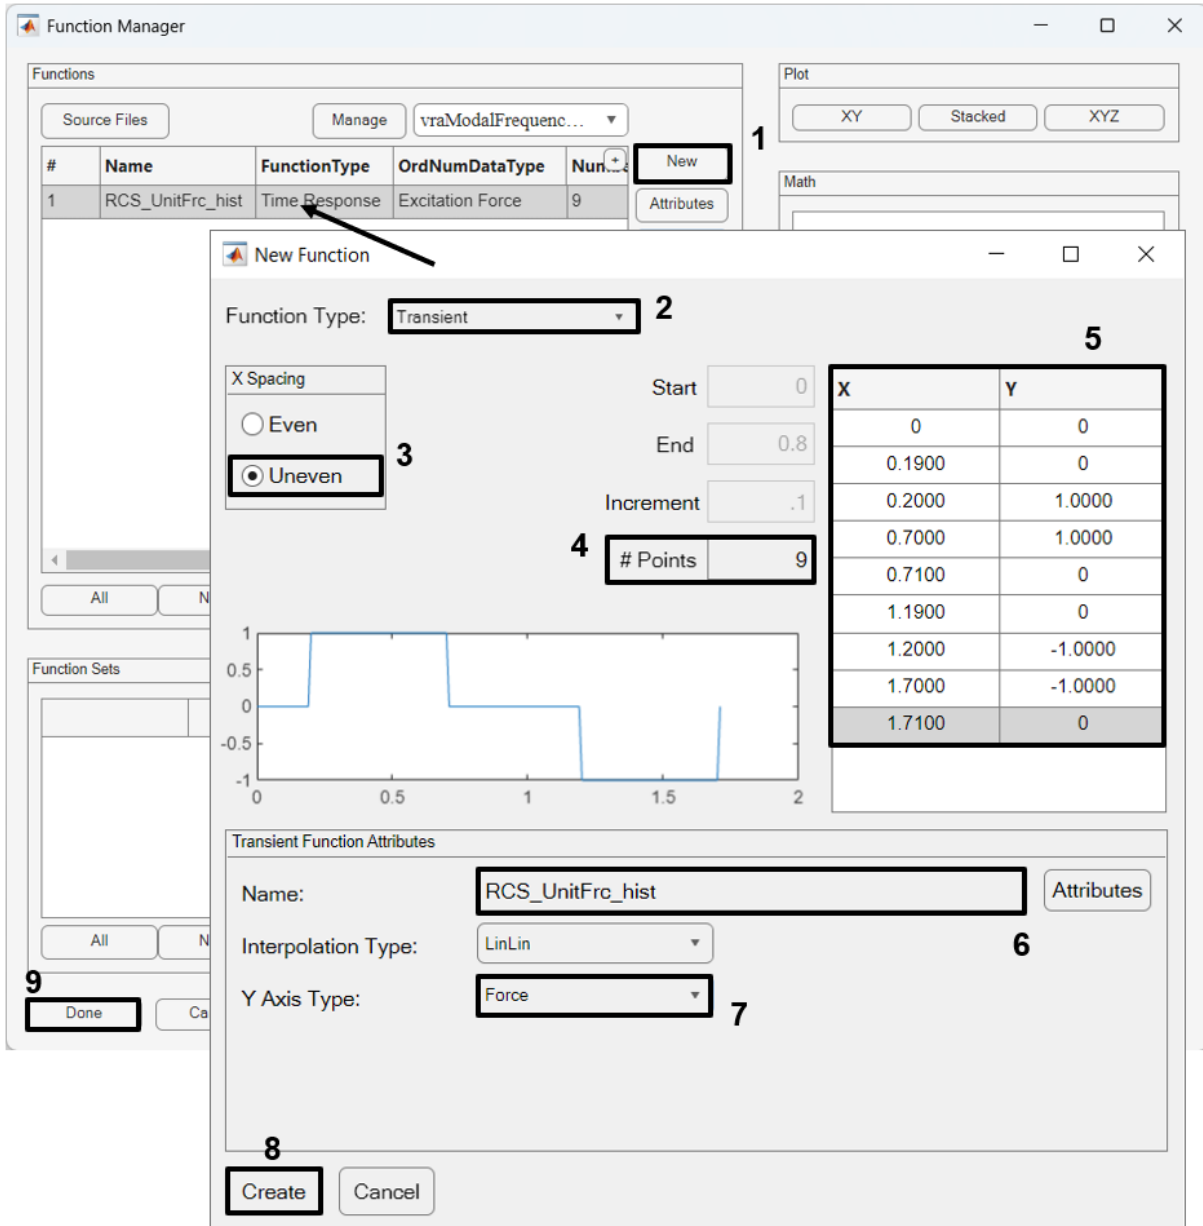
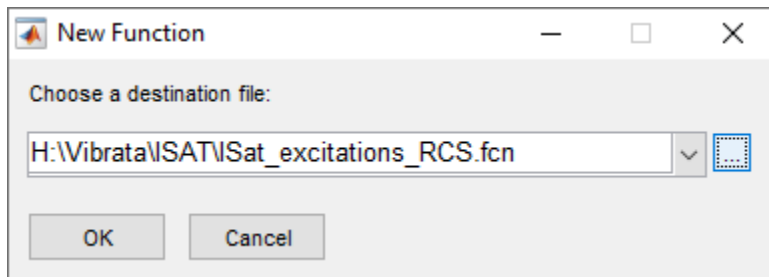

Figure 4-95. Thruster force transient for Isat maneuver.
Figure 4-96. Save the Isat thruster forcing function to a file.
5. In the Function Manager, you will create a time function to excite the Isat transient event. If you have already run the random examples in section 4.3.1, open the "Isat\_excitations.fcn" file used there; if that file does not currently exist, you will create it when you have finished defining the function for the current example. As shown in Figure 4-95, create a new transient function, set its Y-axis to *Force*, give it uneven X-spacing, set the number of points to 9, and assign it the X and Y values shown. The pulses have unit amplitude; this will let us size the RCS thrusters just by scaling the excitations. Remember to give the function a recognizable name. Click **Create** to store the function to an *fcn* file (Figure 4-96). Click **Done** on the Function Manager to return this function to the Point Force dialog. Assign it a scale factor of